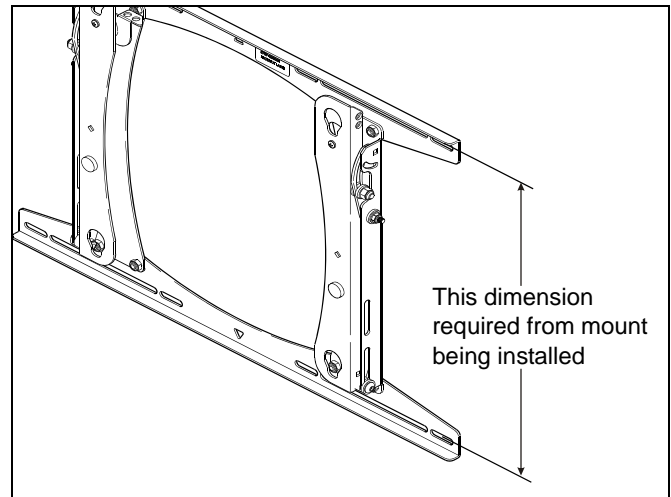

Figure 4: Identify distance between Vertical Mounting Holes on mount
2. Determine distance between vertical mounting holes on the mount being installed by referring to the Installation Instructions provided with the mount. (see Figure 4)